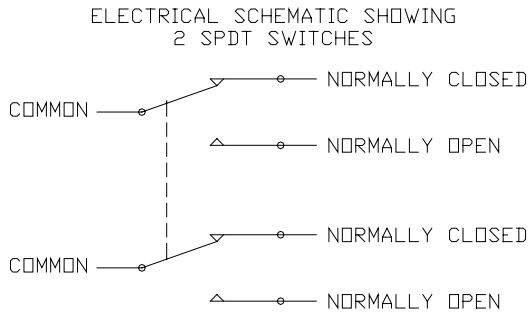

Figure 1: SPDT 2-Switch Schematic
5. Field wiring must meet or exceed the requirements of the National Electrical Code and any other agency or authority having jurisdiction over the installation. Refer to figures 1 through 3 for wiring information.